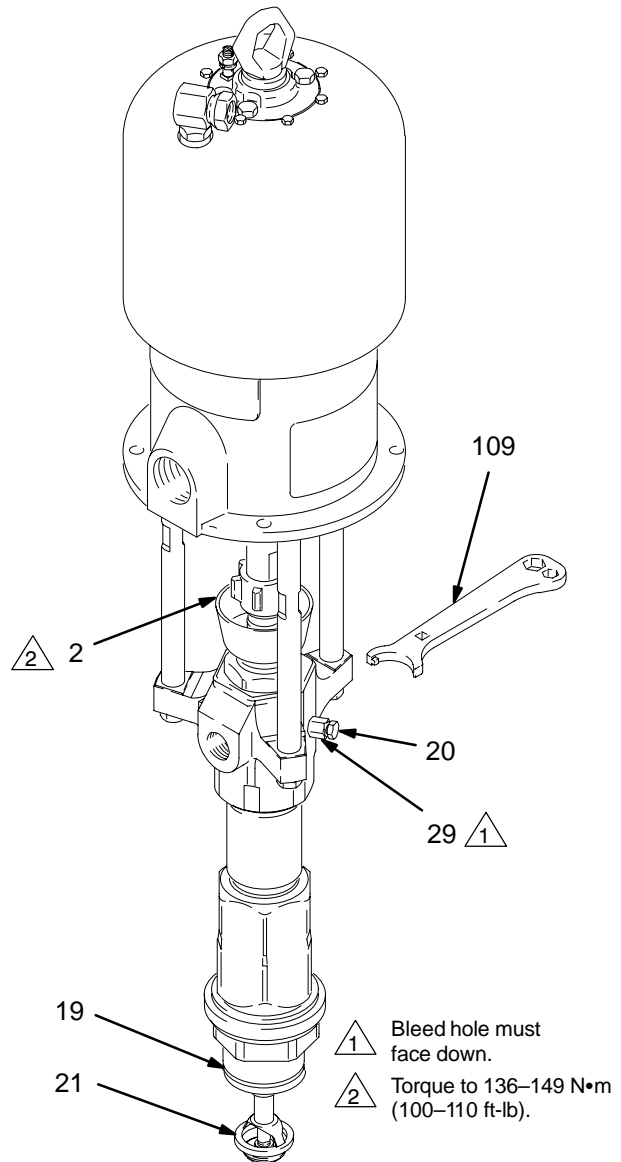

Fig. 4
Before starting, fill the packing nut (2) 1/3 full with Graco Throat Seal Liquid (TSL) or compatible solvent. See Fig. 4.
8. If the pump fails to prime properly, open the bleeder valve plug (20) slightly. Use the bleed hole, on the underside of the valve body (29), as a priming valve until the fluid appears at the hole. See Fig. 4. Close the plug.